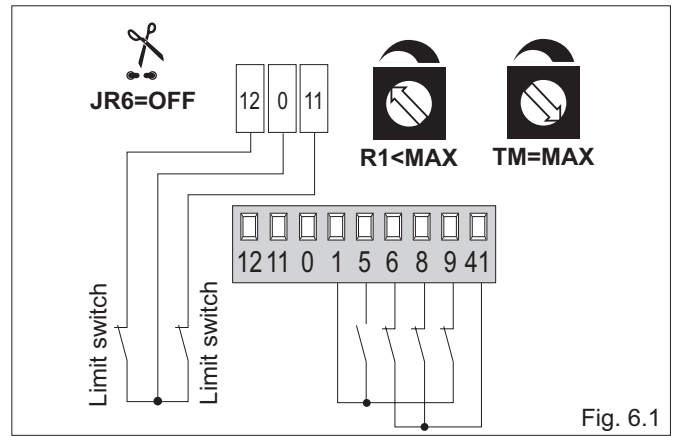

Fig. 6.1
- (Fig. 6.1) connect opening and closing limit switches N.C. contacts to plug 12-0-11;